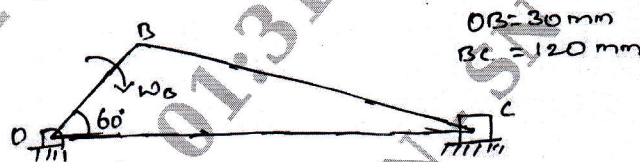

Fig. Q3
- 3 In a slider crank mechanism, the Crank $OB = 30$ mm, connecting rod $BC = 120$ mm, the crank rotates at a uniform speed of 300 rpm clockwise. For the crank position shown in Fig. Q3, determine velocity of piston 'C' and angular velocity of connecting rod 'BC', acceleration of piston 'C' and angular acceleration of connecting rod 'BC'. (20 Marks)